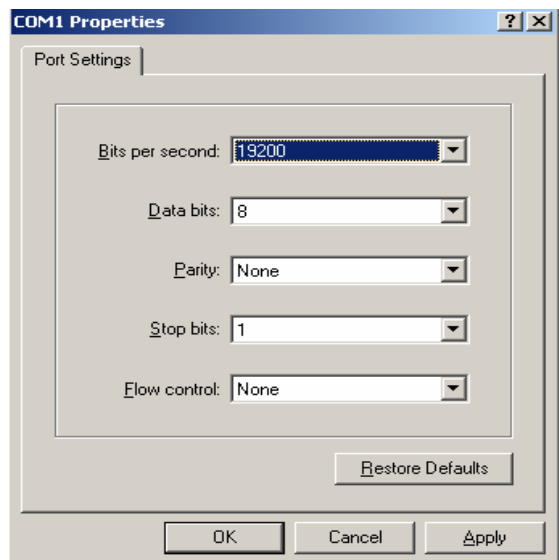

Figure 12 Hyper Terminal Configuration
16. Configure Hyper Terminal with selected COM port, Baud rate 19200, 8 Data bits, None Parity, 1 Stop bit and None Flow Control. – (see figure 12)